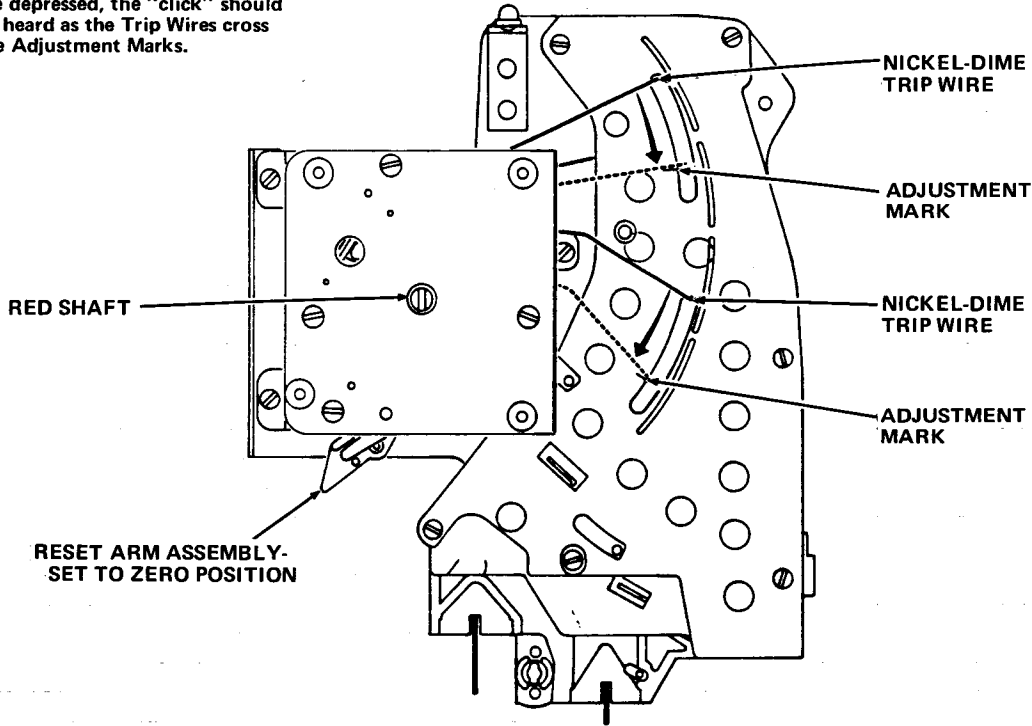

FIGURE 4
- g. Move the Reset Arm Assembly all the way to the left to set the Accumulator Assembly to the zero position as shown in Figure 4.
The Nickel-Dime Trip Wires must be adjusted so when the Nickel-Dime Trip Wires are depressed the "click" is heard when the Trip Wires are at the Adjustment Marks on the Nickel-Dime Trip Wire slots. See Figure 4.